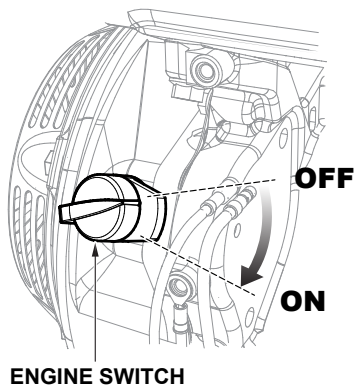

Figure 18. Engine ON/OFF Switch (ON Position)
6. Place the engine ON/OFF switch (Figure 18) in the “ON” position.